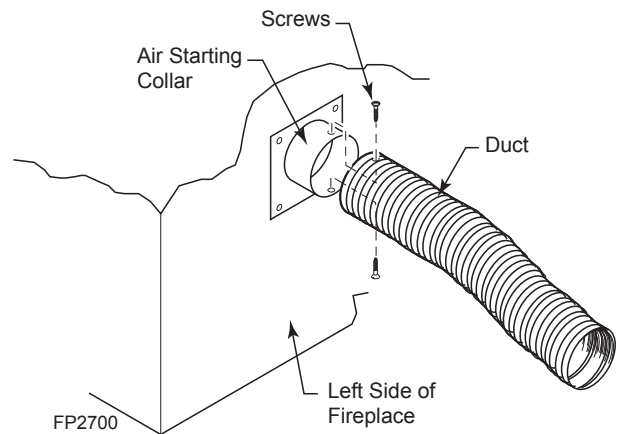

Figure 17 -
4. Attach outside duct to starting collar with duct clamp or screws. *Figure 17*
6. Select and cut a piece of duct long enough to attach to the fireplace and stick out at least 3" beyond the face of the wall to which the AK-4 inlet air vent will be attached. *Figure 17*